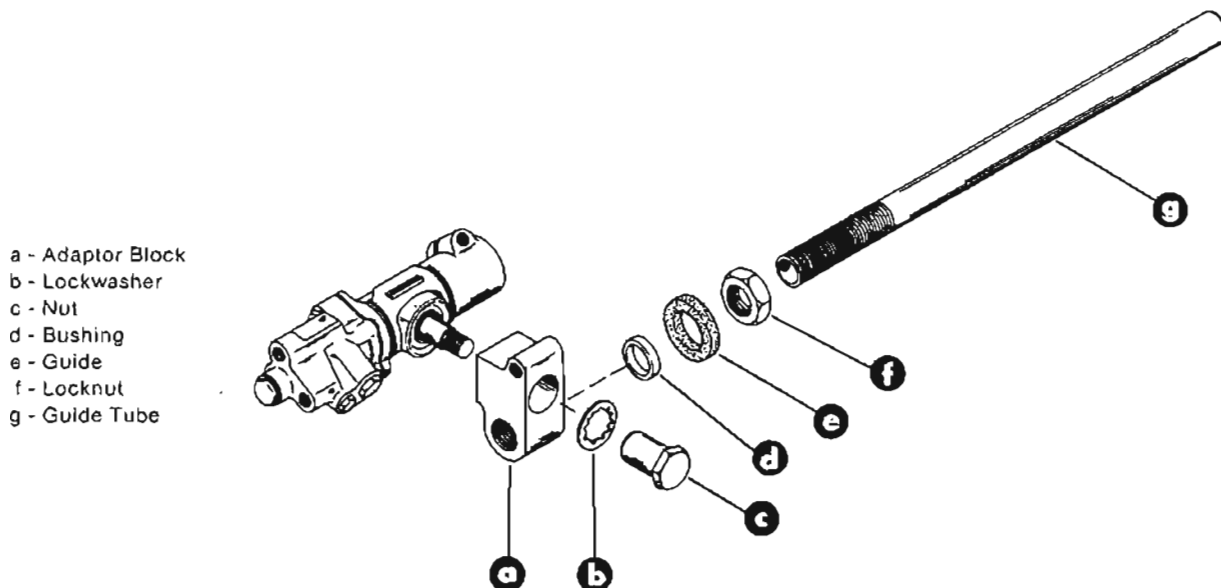

Figure 3. Removing Cable Guide Tube and Adaptor Block Assembly
2. Remove cable guide tube and adaptor block assembly by loosening adaptor block attaching nut and tapping nut with a hammer. (Figure 3) After adaptor block is loose, remove nut, lockwasher and cable guide tube and adaptor block assembly.